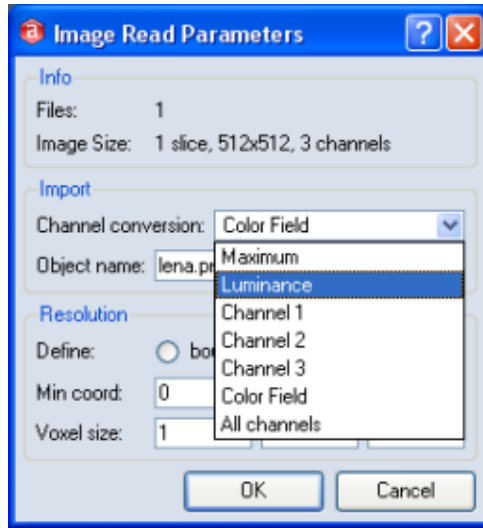

Figure 2.30: Loading the image
- Choose *Luminance* in the *Channel Conversion field* as shown in Figure 2.30.